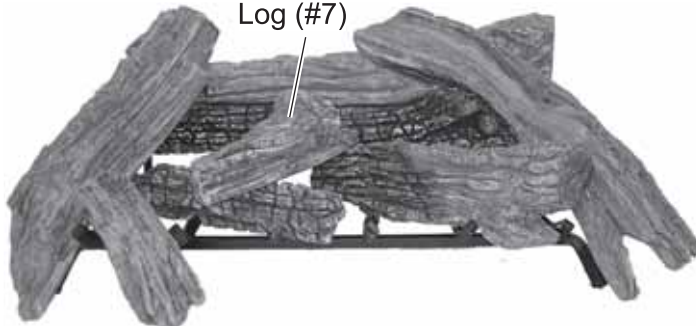

Figure 91 - Resting Center Top Log (#7) Bottom left Log and Back Log
8. Rest Top Center Log #7 on bottom left log #2 and back log #1. *See Figure 91.*